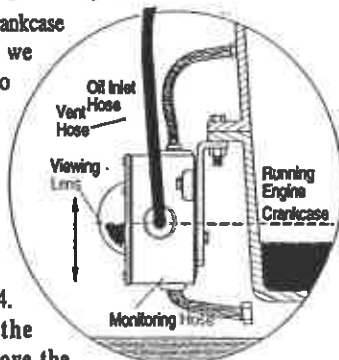

Figure 4
2. Attach the 1 inch (25 mm) diameter, flexible monitoring hose to the crankcase and the monitoring port on the LM300. See Figure 4. **CAUTION:** The hose must slope slightly downward from the LM300 and **MUST NOT** have any droop or low spots.
3. Install the 1/2 inch (13 mm) I.D. x 3 ft. (914 mm) hose to the vent connection on the LM300 to the vent connection on the crankcase. See Figure 4.
4. Fill the crankcase to the proper oil levels. With the engine running and warm, loosen the mounting bracket adjustment bolts and adjust the LM300 so that the oil level in the sight gauge is aligned with the white "index line" on the dial (Figure 4). Tighten the adjustment bolts securely.